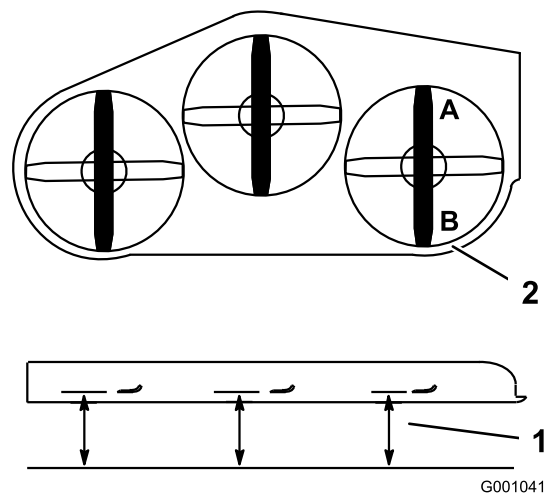

Figure 79
2. Position one blade front-to-rear. Measure at **A** and **B** locations from a level surface to the cutting edge of the blade tips (Figure 79).